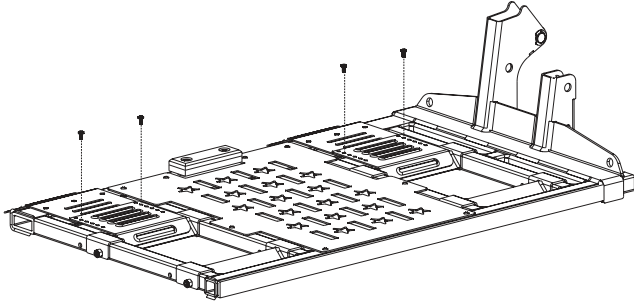

Figure 6-28
6. Reattach the ramps using a #2 Phillips screwdriver. See Figure 6-28.